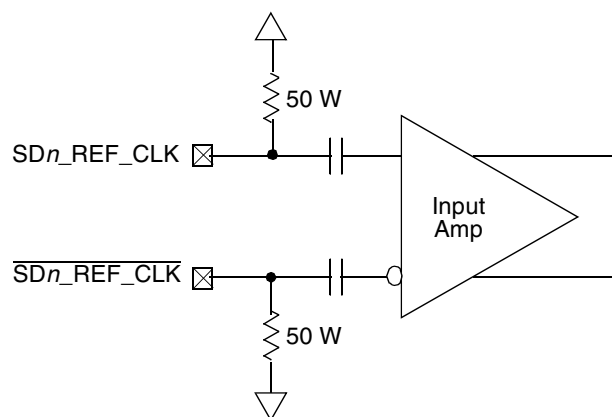

Figure 39. Receiver of SerDes Reference Clocks
Figure 39 shows a receiver reference diagram of the SerDes reference clocks.
- The  $SDn\_REF\_CLK$  and  $\overline{SDn\_REF\_CLK}$  are internally AC-coupled differential inputs as shown in Figure 39. Each differential clock input ( $SDn\_REF\_CLK$  or  $\overline{SDn\_REF\_CLK}$ ) has a 50- $\Omega$  termination to SGND followed by on-chip AC-coupling.